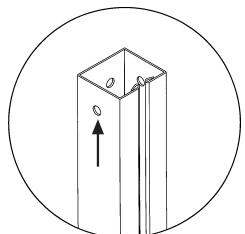

Fig.1
*Make sure the direction of arrow (Fig. 1) and opening of the Column (Fig. 2) as Shown*